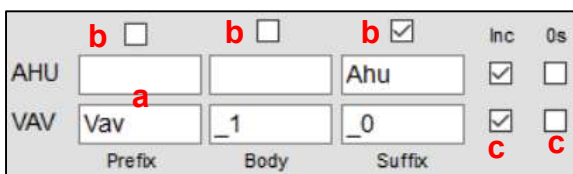

Figure 5
- E. **Naming Structure section (figure 5):**